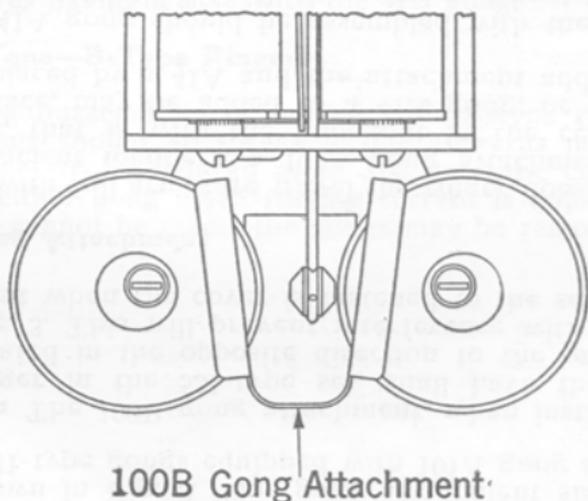

Fig. 3—100B Gong Attachment on B-Type Ringer
3.03 Install the 100B gong attachment on B-type ringers as shown in Fig. 3. This gong attachment should not be used with 41-type gongs equipped with 101A gong attachments.
Note: The 100B gong attachment, when installed on the ringer in the 531-type set, shall have the open end located in the opposite direction to the one shown in Fig. 3. This will prevent interference with the attachment when the cover is fastened to the set.